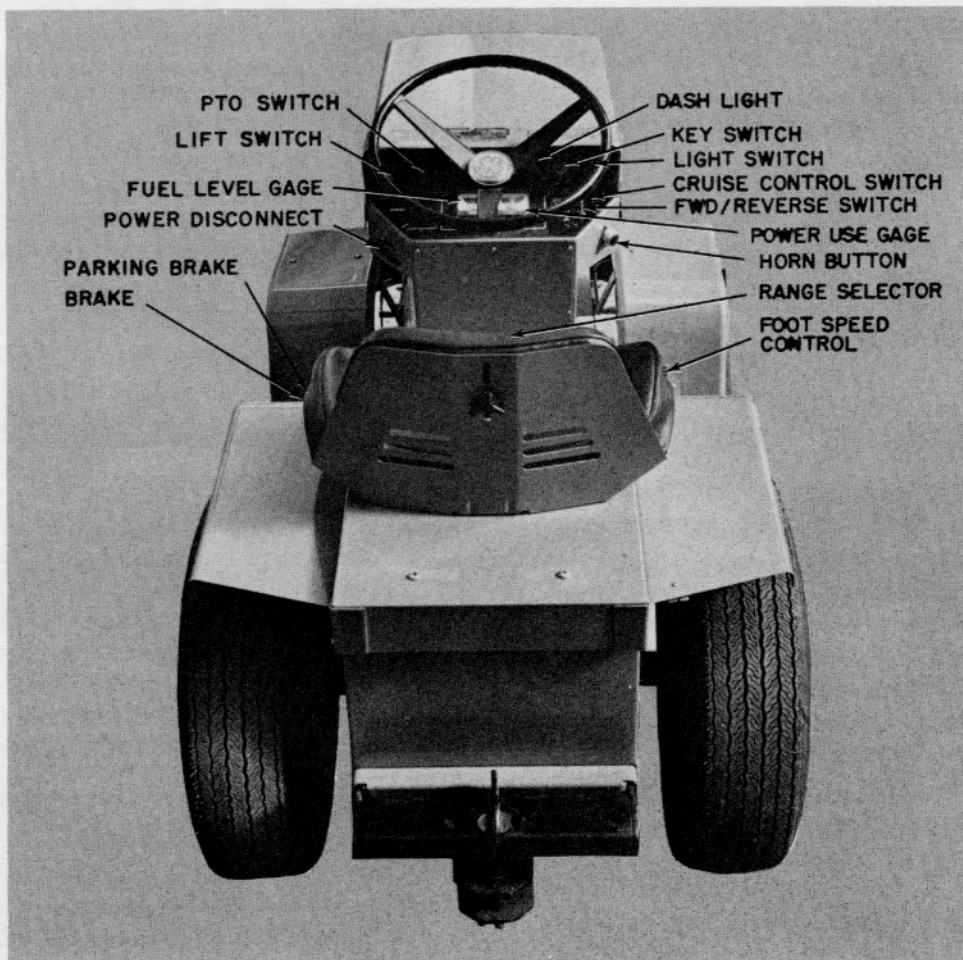

Figure 1. I-5 ELEC-TRAK Tractor
*Prior to initial use of the ELEC-TRAK tractor, the user should completely familiarize himself with all tractor controls and the safety interlocks. (Pages 5 through 11.) (See Figure 1)*